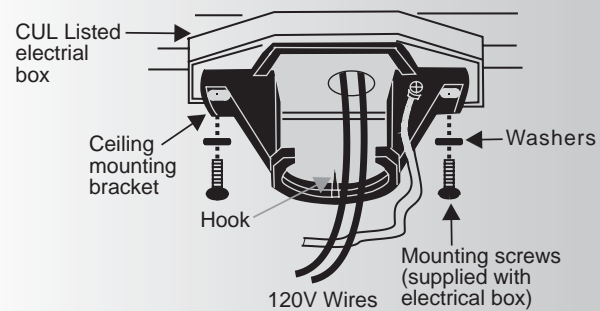

Fig. 6
- Step 3. Secure the hanger bracket to the ceiling outlet box using screws and washers included with your outlet box. (Fig. 6)
2. Pass the 120-volt supply wires through the center hole in the ceiling hanger bracket as shown in Fig. 6.
3. Secure the hanger bracket to the ceiling outlet box with the screws and washers provided with your outlet box. (Fig. 6)